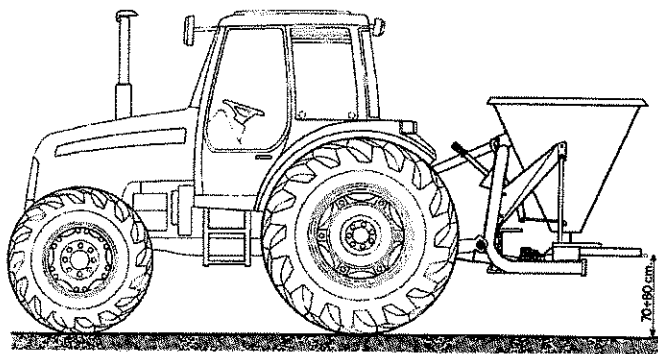

Figure 3
- 1 - Fix de lower bars of the tractor lifting mechanism to the lower couplings of the spreader (Fig. 3) and then secure with safety pins.